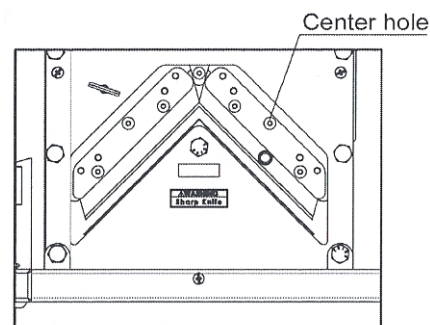

Figure 16
- 8) Align and replace the screws and washers that were removed in Step 5 above. Once the Screws are aligned, secure and tighten the 2 screws. See Figure 16.